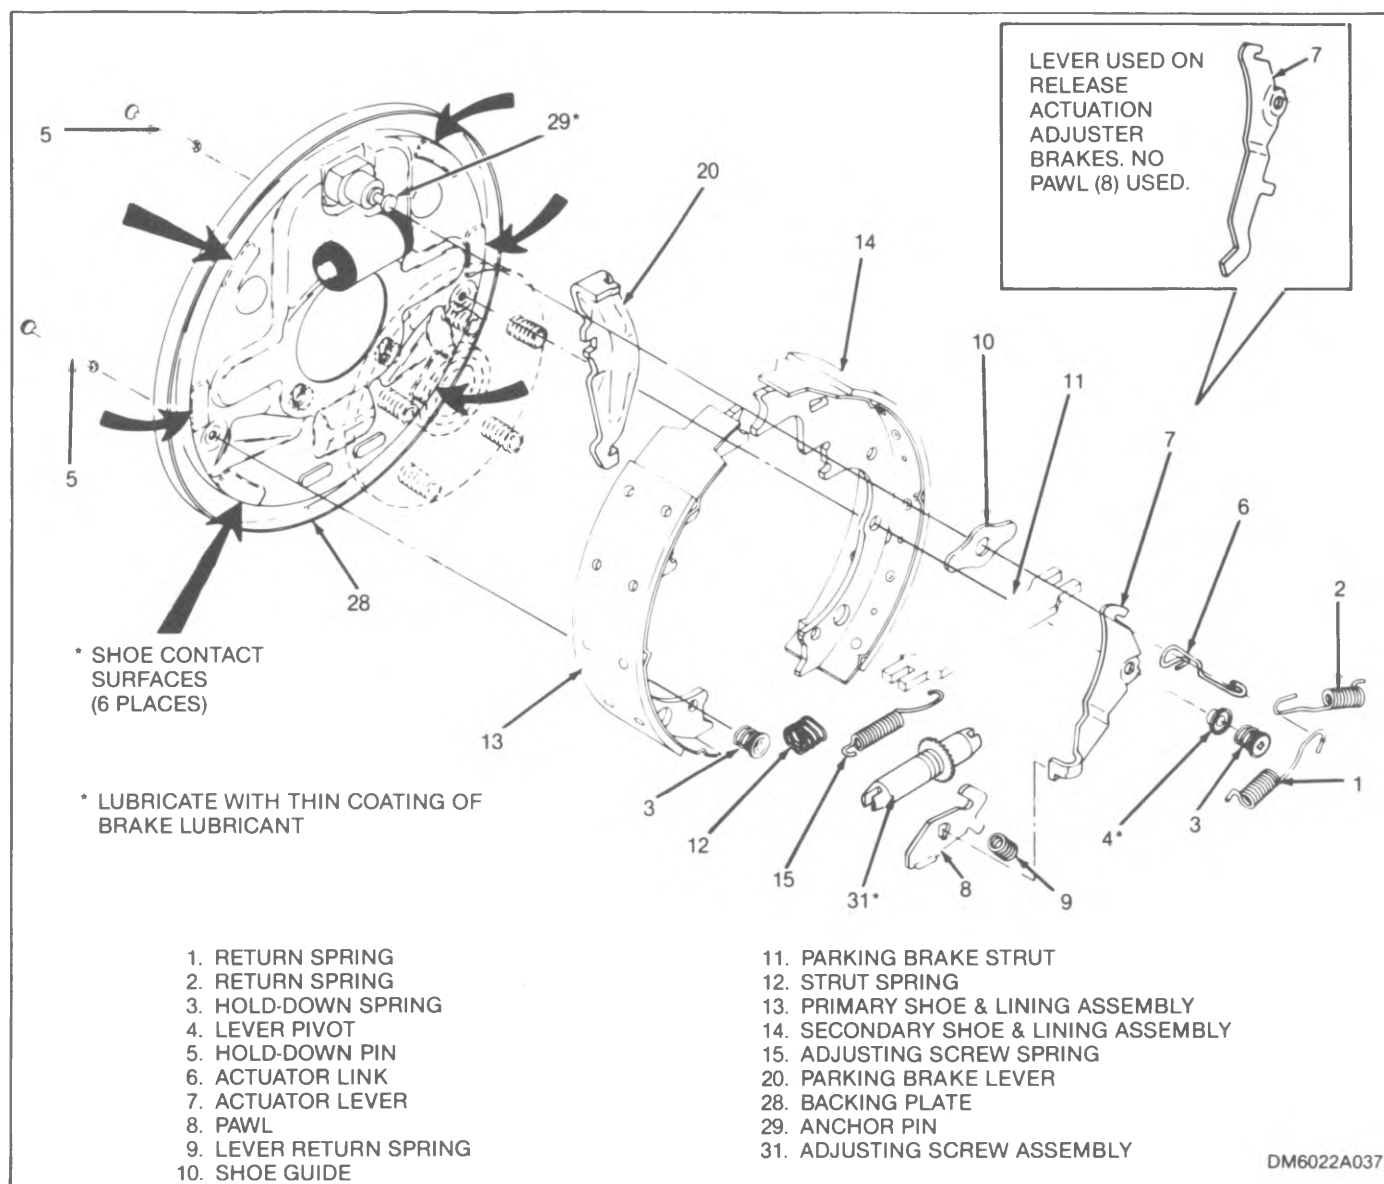

Figure 3-18. Brake Components
agraph 1-8 thru 1-10. After removing brake drums (refer to paragraph 3-14), proceed as follows to remove and replace brake shoes and hardware (see figure 3-18):
21. Spread brake shoes (13 and 14, figure 3-18) to clear axle flange, connect parking brake cable to lever (20), and install parts on backing plate (28).
22. Install parking brake strut (11) and strut spring (12) by spreading shoes (13 and 14) apart.
23. Make sure strut (11) is properly installed. End without spring (12) engages parking brake lever (20). End with spring engages opposite brake shoe.
24. Install shoe guide (10).
25. Install actuator lever (7), pawl (8) (where used) and lever return spring (9).
26. Lubricate lever pivot (4). Install hold-down pins (5), lever pivot and hold-down springs (3).
27. Install actuator link (6) on anchor pin (29).
28. Lift up actuator lever (7) and hook link (6) into lever.